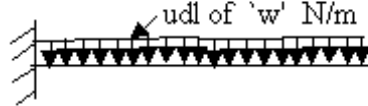

Figure 19:
- (b) Calculate the maximum deflection in a cantilever beam, subjected to udl of 'w' N/m, by least squares method and Galerkin method. Compare the result. Shown in figure 19